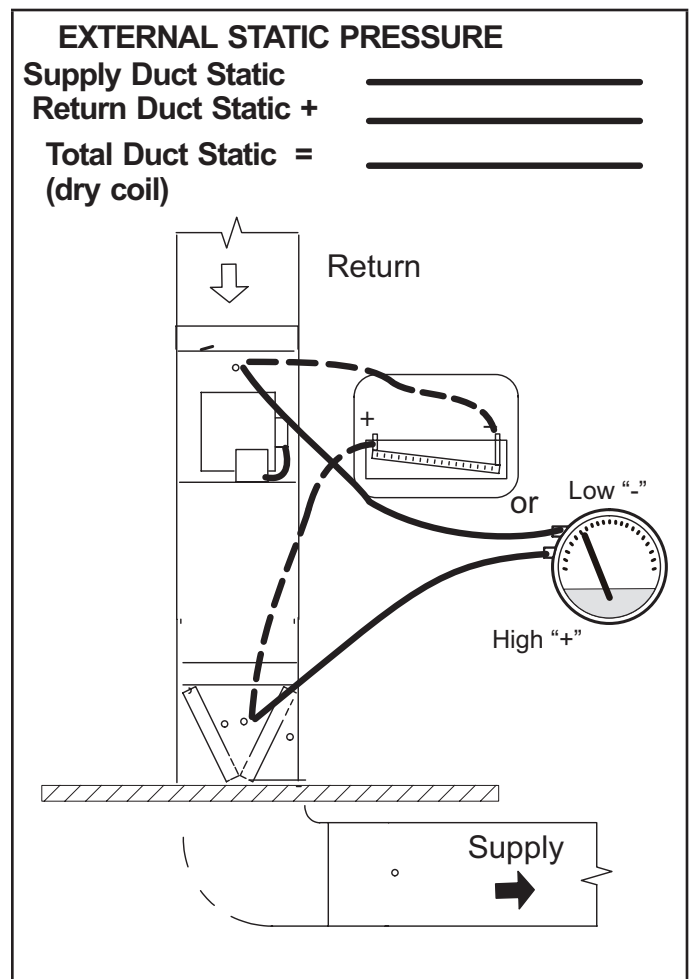

FIGURE 23
- 1 - Tap locations shown in FIGURE 23.